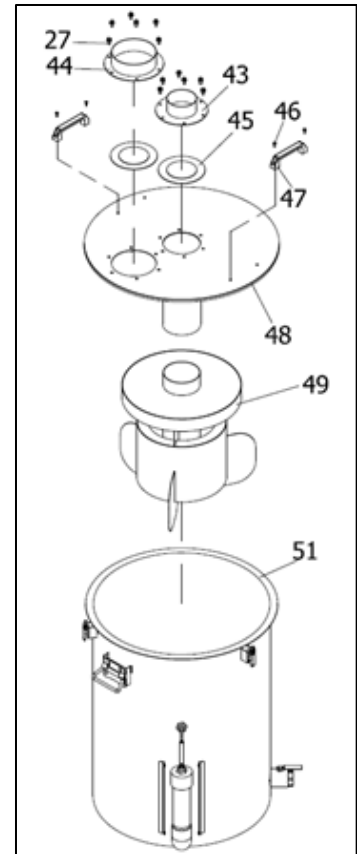

Figure 8-5: Setup Installation Cont'd
11. Assemble the Drum Handle (NO. 47) and use a flat head screwdriver to tighten the flat head screws (NO. 46) onto the Drum Lid (NO. 48). See Figure 8-5